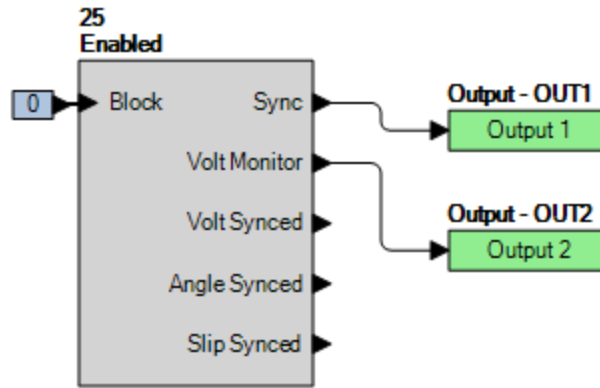

Figure 56-1. BESTlogicPlus Settings (25)
Step 2: Use BESTCOMSPlus to configure the BESTlogicPlus Programmable Logic shown in Figure 56-1.